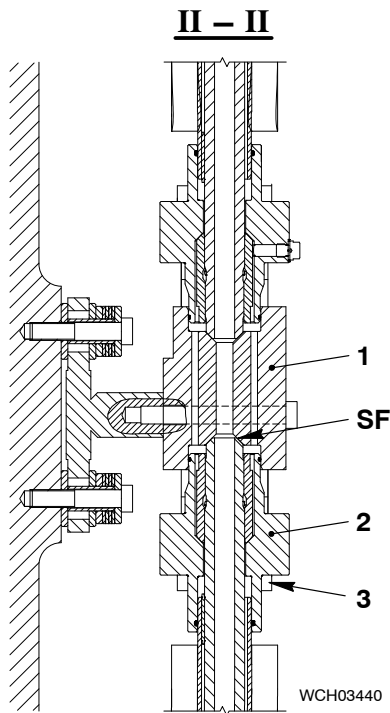

Fig. 7
- 8) Remove the four screws (3, Fig 7) from the flange (2).
- 9) Carefully move the flange (2) away from the intermediate piece (1).